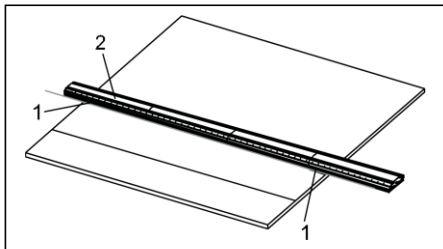

Fig. 14
3. Place the guide track (2) on the workpiece. Line up cutting edge of track with the cut line (1) (Fig 14).